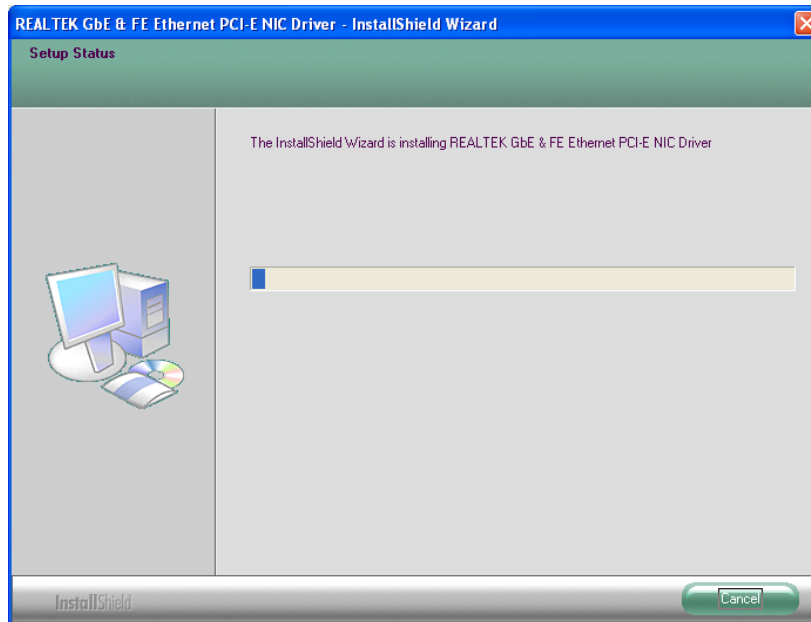

Figure 6-16: LAN Driver Installation
Step 8: The installation progress can be monitored in the progress bar shown in **Figure 6-16**.